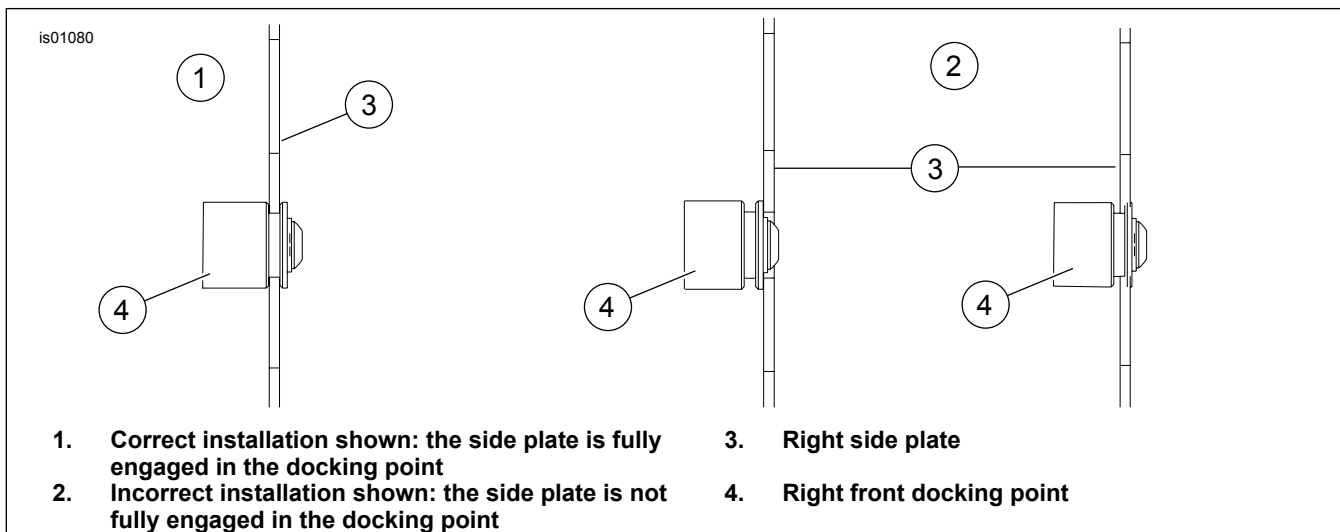
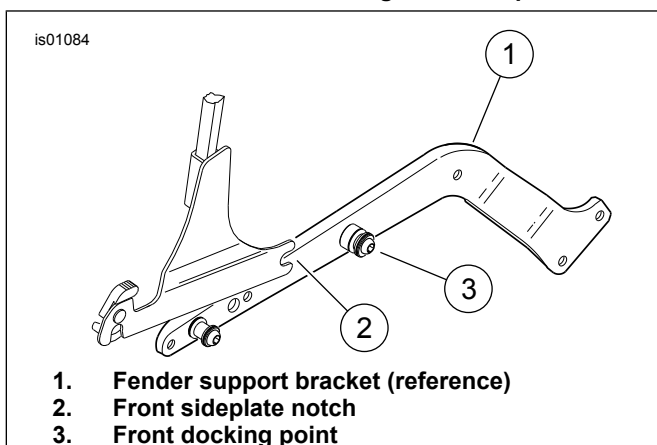

Figure 2. Sideplate Must Fit Into Docking Point Correctly
Figure 3. Place Front Notches Into Front Docking Points
1. See Figure 2. Note the correct (1) and incorrect (2) installation of the sideplate (3) engagement in the docking point (4).
2. See Figure 3. While standing behind the motorcycle, place the front sideplate notches (2) into the front docking points (3) as shown in Figure 3. (Sideplate sissybar assembly in this illustration is not shown in its entirety.) See Figure 2 for views of correct and incorrect sideplate positions.
Check alignment as described in Step 2 and Figure 2. Failure to properly align the docking points and sideplates may result in damage to the rear docking points.
4. Push downward and close the rotary latches by pressing the latch lever as far forward as it will go as shown in Figure 5. You will hear a click when the latch is in place. **If the latch does not easily close, do not force.** Recheck alignment as shown in Figure 4 and Figure 2.